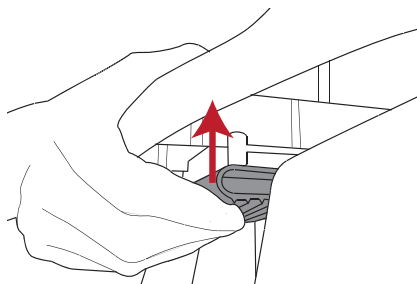

Figure 9
- Squeeze the white button under the seat and adjust the seat to one of three positions. See Figure 9.